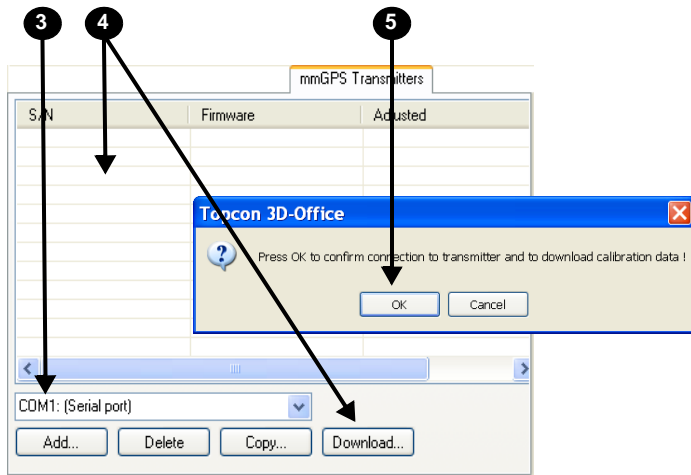

Figure 2-33. Download Transmitter Calibration Data
The *Control points* dialog box displays (Figure 2-33 on page 2-30).
5. Click **Ok** at the confirmation (Figure 2-33 on page 2-30).